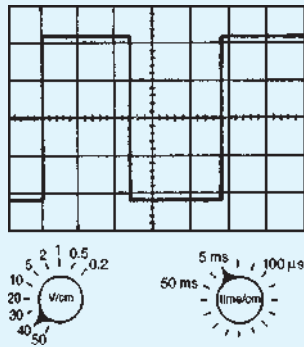

Figure 10.21
- For the square voltage waveform displayed on an oscilloscope shown in Fig. 10.21, find (a) its frequency, (b) its peak-to-peak voltage.